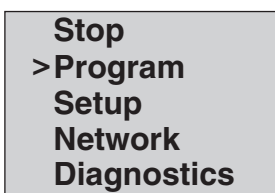

Fig. 2
2. Press the **ESC** key located next to the display window and under the arrow key pad (see figure 2). Pressing the **ESC** key will access the Parameter Assignment Menu.